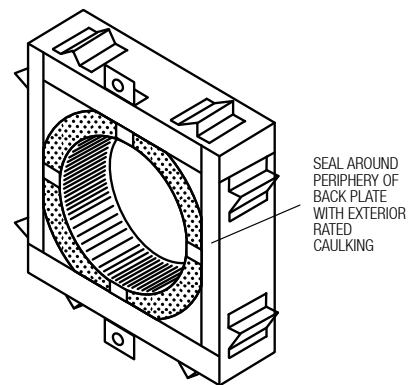

FIG. 3
7. Apply the exterior rated silicon caulking to the back periphery of the back plate. See Fig. 3.